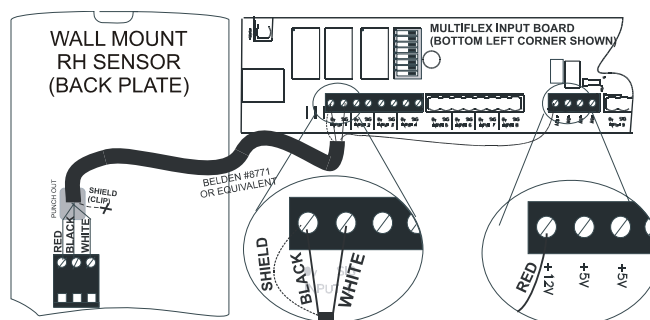

Figure 2 - Sensor and Input Board Wiring
2. Connect the RED, BLACK, and WHITE wires to the screw terminals the sensor's connector as shown in *Figure 2*. Clip the SHIELD wire.
RH wiring is the same as the RH wiring shown in the diagram above (*Figure 2*). For temp sensor wiring, follow the steps below:
2. Connect the BLACK and CLEAR wires to the screw terminals the sensor's connector as shown in *Figure 2*. Clip the SHIELD wire. Note that the third terminal on the sensor connector is unused.